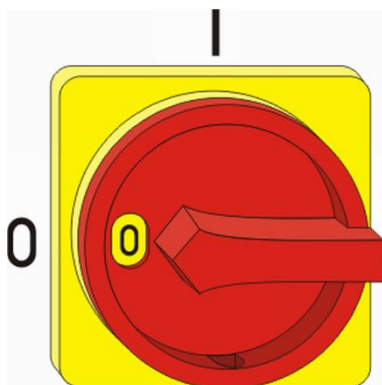

Fig. 33: main switch
1. Turn the main switch to the "0" or "Off" position (Fig. 33).